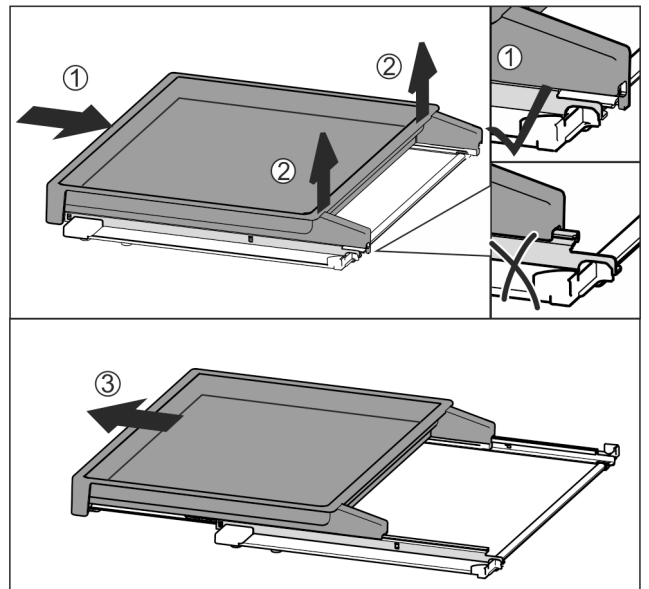

Fig. 40
- ▶ Slide the pull-out board all the way in Fig. 40 (1).
- ▶ Release the clips at the back Fig. 40 (2).
- ▶ Remove the pull-out board from the front Fig. 40 (3).